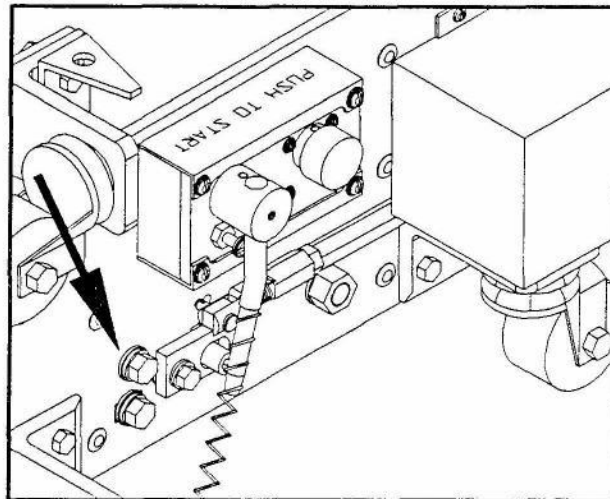
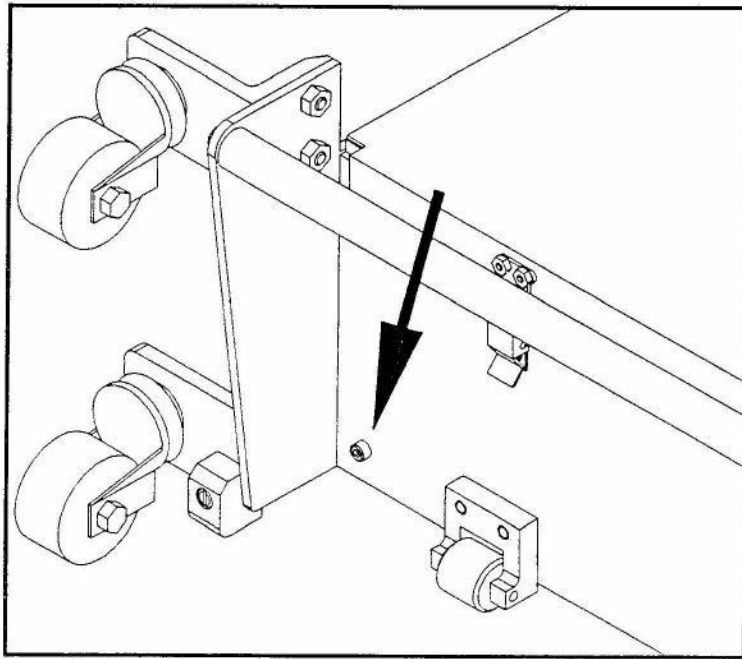
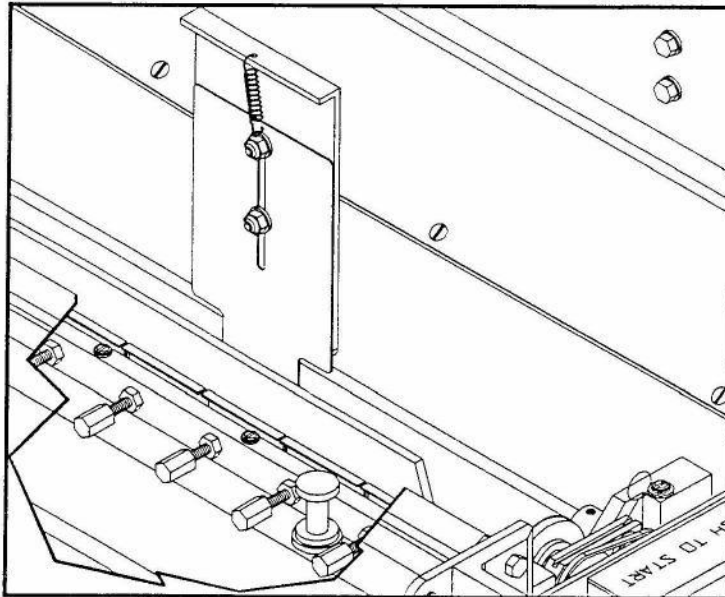

Figure 10
Figure 11
Figure 12
7. The dressing tank must be aligned in the GEMINI® and GEMINI PLUS® for proper application of lane dressing. The dressing tank should not be tilted toward the left or the right. This adjustment must be done before calibration of the dressing tank. Place the GEMINI® or GEMINI PLUS® at the foul line in the saturation position. The drive motor fuse should be removed. The dressing buffer switch should be on and the dressing tank should be engaged against the oil transfer roller by moving the oil switch to the double position. Using the dressing tank pressure gauge supplied with the GEMINI, measure the pressure at each end of the dressing tank. The pressure should be equal. If the right side pressure is increased, the left side pressure will be automatically decreased. If the left side pressure is increased - the right side pressure will be automatically decreased. Moving one side affects the other side. To adjust the dressing tank alignment, loosen the tighter side by loosening the locking bolts on only the tighter side of the machine. See Figure 10. Turn the Allen head adjusting screw as necessary to back off the tighter side. This Allen head adjusting screw is located on the dash end firewall of the GEMINI. See Figure 11. Measure the pressure between the dressing tank felt and the oil transfer roller when the dressing tank is engaged against the oil transfer roller. This pressure should be measured by pulling the gauge out from between the dressing tank felt and the oil transfer roller and recording the gauge reading. See Figure 12. Adjust the dressing tank sideways tilt as necessary. Tighten the locking bolts loosened above and shown in Figure 10.